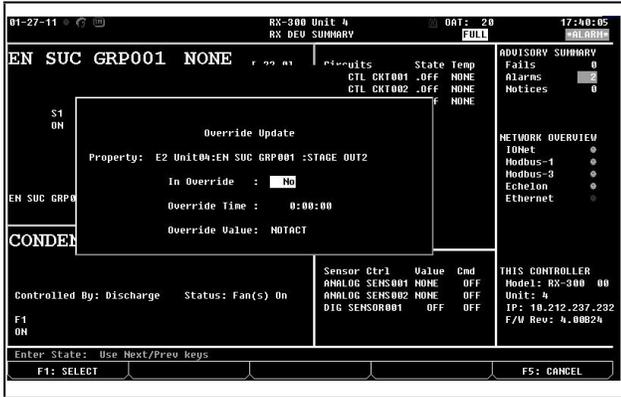

Figure 3-8 - Override Update Screen (RX Version Shown)
- The Override Update screen appears (see Figure 3-8). Press the **Prev** or **Next** to enter **Yes** to place the stage in override. Scroll down one space to enter the **Override Time**.